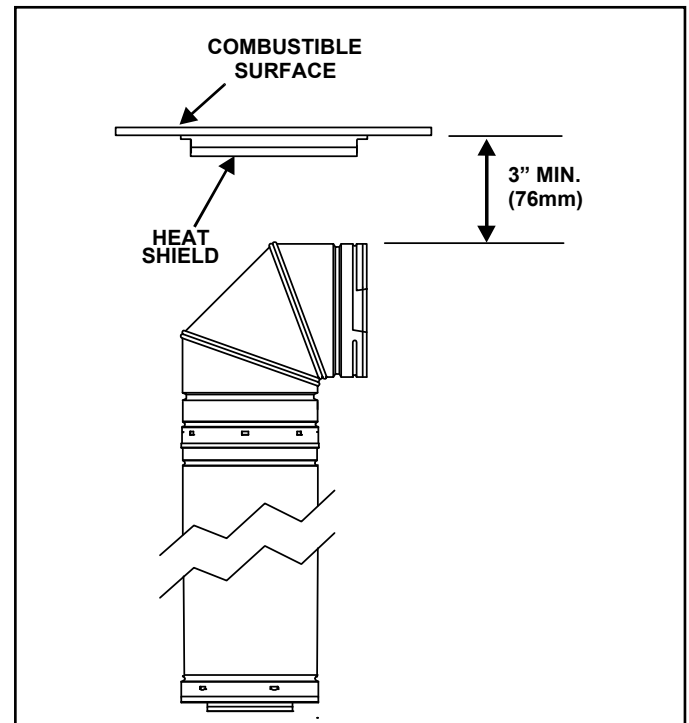

Figure 4.9
3. Determine if the heat shield is required. Do so by measuring the vertical distance between the top horizontal surface of the elbow to any combustible surface above. If the distance is more than 4 inches, the heat shield is **NOT** required. If it is 4 inches or less, the heat shield **IS REQUIRED**. Install per the following steps. See Figure 4.9.